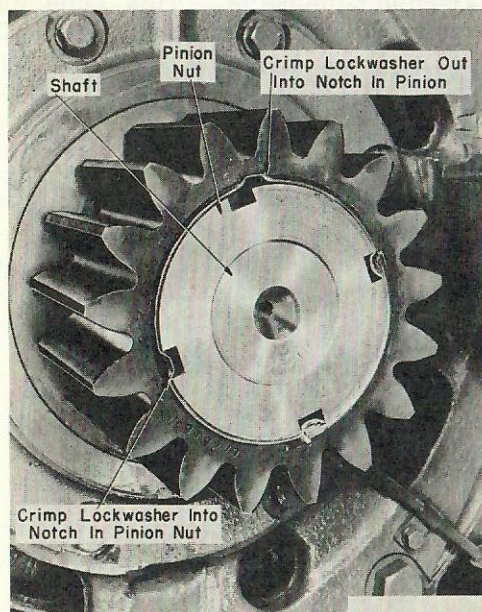

Fig. 4-10
6. Assemble lock washer and pinion nut. Tighten nut and lock it by bending up the lock washer. See Fig. 4-10.